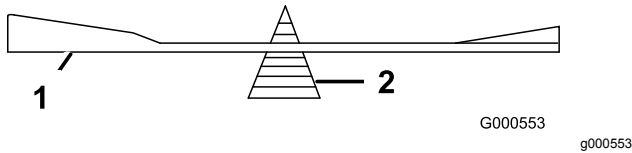

Figure 64
- Check the balance of the blade by putting it on a blade balancer (Figure 64).